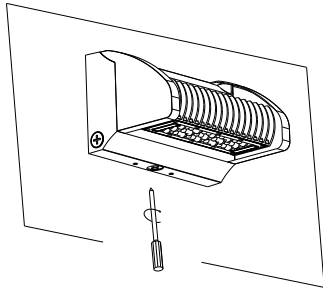

Figure 1-5
5.Fix the luminaire on the bracket and tighten screws on the bottom(Figure 1-5)